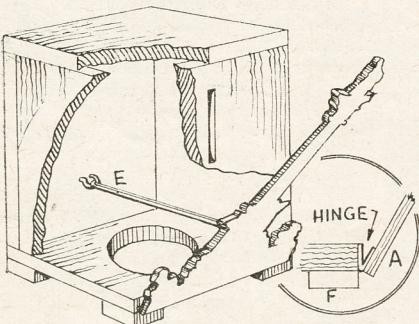

Fig. 3—General view of construction
To get the money out of the box it requires only the tip of a sharp pocket knife to cut the paper which covers a cut-out disc of wood formed in the floor of the box. The hole from which this disc is cut is shown in Fig. 3.
The lower end of the overlay when fixed must come flush with the bottom edge of the box, and the enlarged detail in Fig. 3 shows how the hinging is carried out. A piece of linen tape $3\frac{1}{2}$ ins. long and $\frac{1}{16}$ in. wide is creased along its length. Half the width is glued to the overlay and half to the box as shown.
The sectional diagram, Fig. 3, shows all the necessary detail regarding the elastic (E) and the hole in the floor for the extraction of the money. Four square feet, F, should be added for clearance when the overlay is lowered.